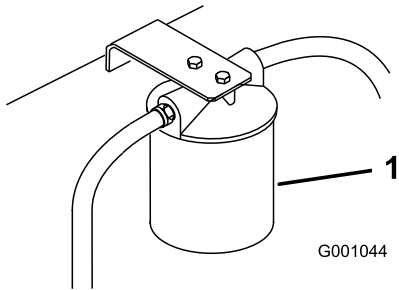

Figure 71
- Place drain pan under filter, remove the old filter and wipe the filter adapter gasket surface clean (Figure 71).